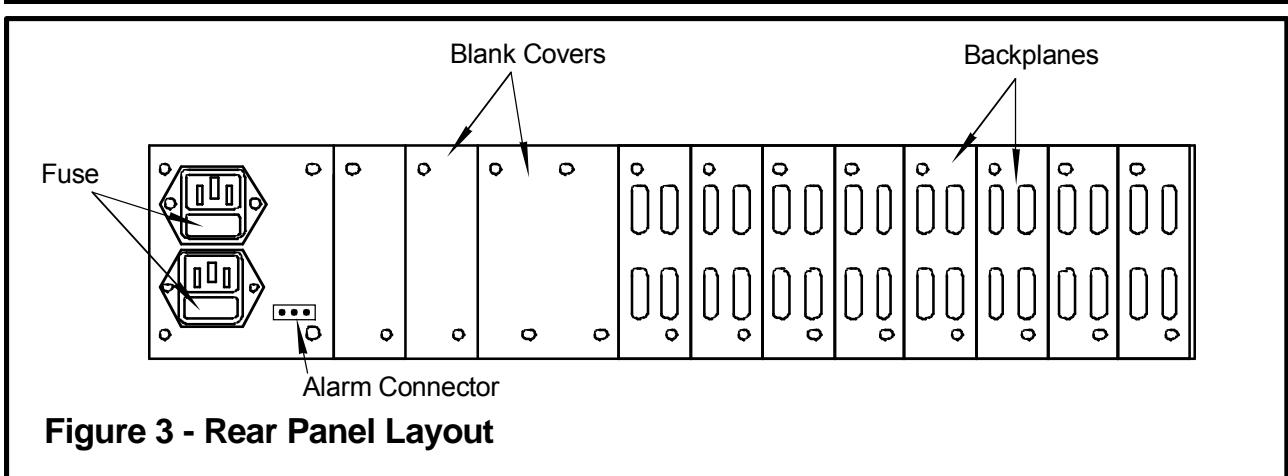

Figure 3 - Rear Panel Layout
- 3. Replace the appropriate frame rear panel covers with the captive backplanes furnished with each active module, leaving unused slots covered. Use the 2.5 mm Allen wrenches supplied for your convenience. The backplane mounting holes are oriented such that the assembly cannot be installed incorrectly. Figure 3 - Rear Panel Layout provides more detail. Ensure proper alignment of each active module to its backplane with the following procedure: